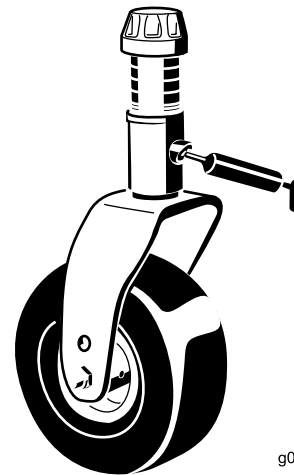

Figure 67
- 2 caster-fork-shaft bushings (Figure 67)